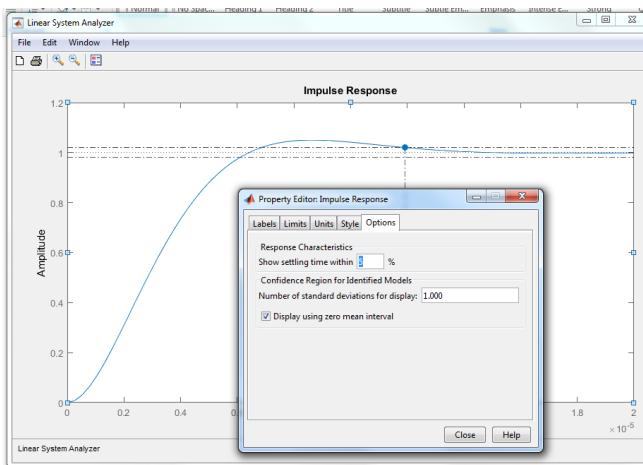

**Figure 1** 5% settling time measurement
4. The 5% settling time is the time from when the input step occurs until the output *settles* to within 5% of its final level. Look at Figure 1.